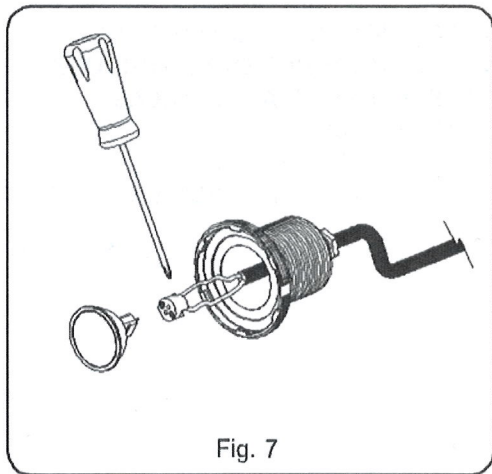

Fig. 7
4. Remove the lamp with reflector and detach it from the lamp holder, loosening the two screws which secure it. (Fig. 7).